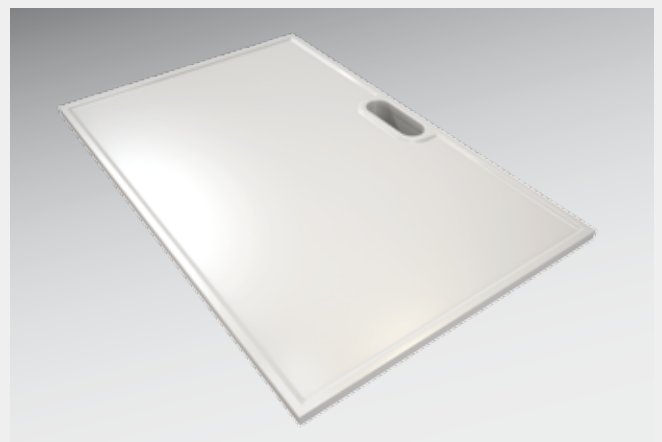

Figure 9)
- By means of a spillover weir (see Figure 9). Here, the cup sink is also mounted onto the fume-cupboard plate from below.